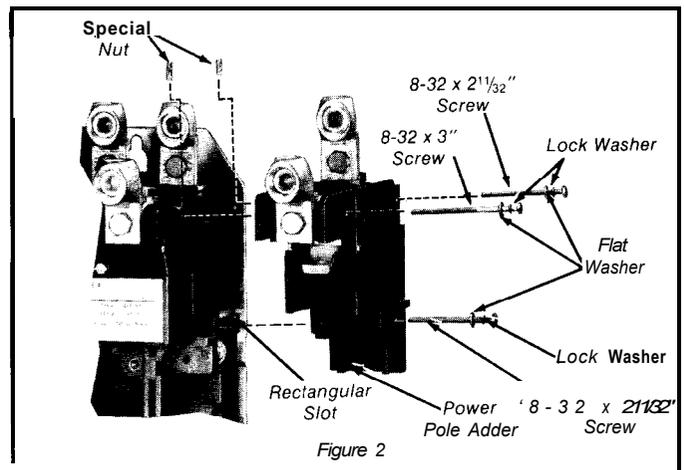
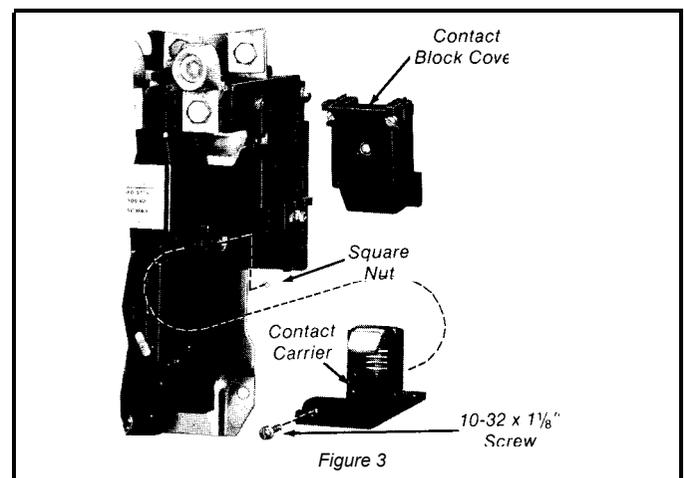

Figure 2
Figure 3
3. Refer to Figure 2. With a screwdriver, push the two special nuts into the nut pockets in the stationary contact block making sure that the embossed projection points are to the inside of the contactor.
4. Position the power pole adder against the stationary contact block. The projections on the power pole adder fit into the rectangular slot in the stationary contact block. Install the three mounting screws, lock washers and flat washers as shown in Figure 2, using screw lengths
5. Attach the adder pole contact carrier to the movable contact support and armature assembly as shown in Figure 3. Position the square nut in the nut pocket and tighten the 10-32 x 11/8" screw securely (approximately 30 inch-pounds torque). If replacement of the adder pole contact carrier becomes necessary order Part No. 40430-456-51.
3. Remove the three mounting screws located on the side of the power pole adder (refer Figure 2) plus the mounting screw and nut which fastens the adder pole contact carrier to the movable contact support and armature assembly (refer Figure 3). Free the adder pole contact carrier by lifting it slightly forward; then, the entire adder pole assembly can be removed with a sideways motion.